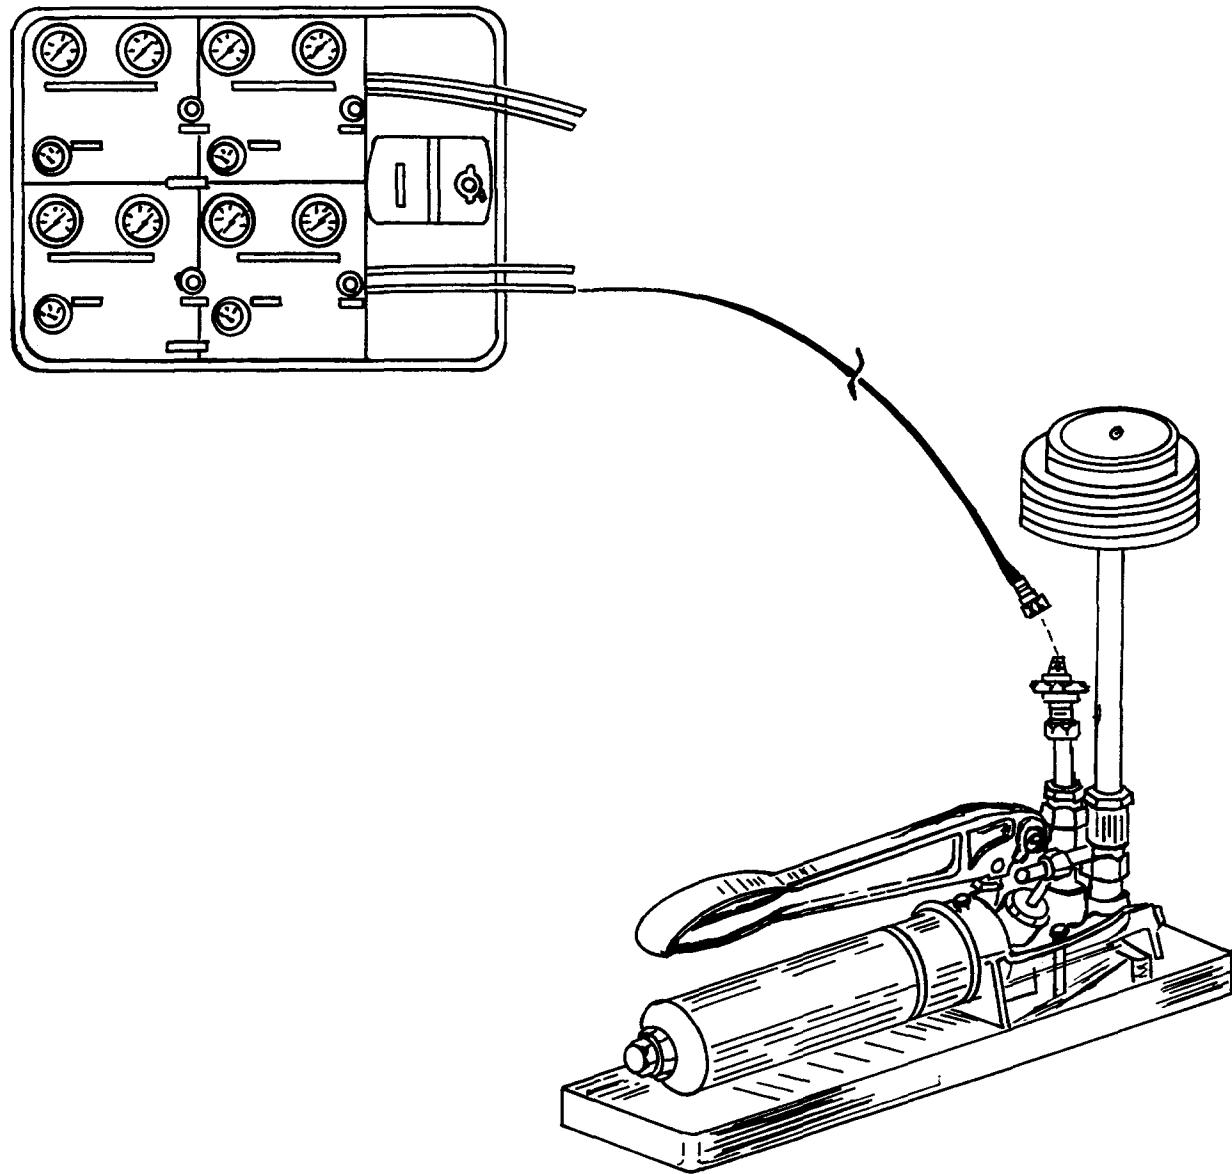

Figure 5-1. Calibration Test Set-Up
- a. Connect the Test Set to the deadweight tester in accordance with Figure 5-1.
a. Connect the Test Set to the deadweight test in accordance with Figure 5-1.